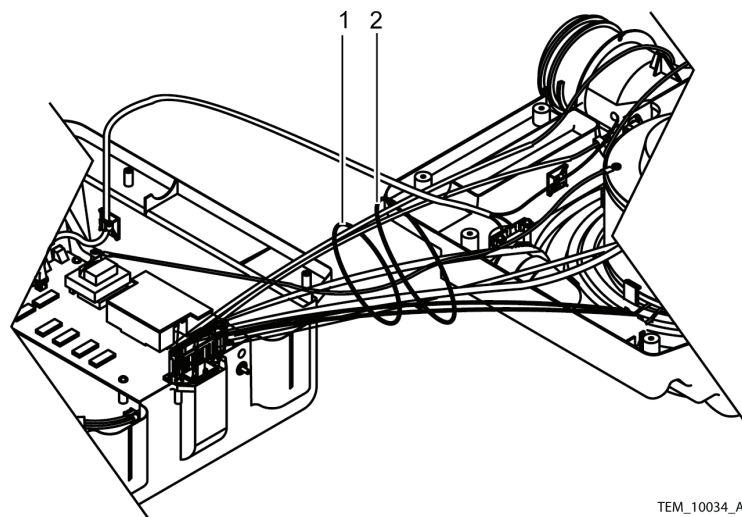

Figure 55. Cable Harness Bundle Ties
25. Install the cable harness bundle ties. See Figure 55, items 1 and 2.